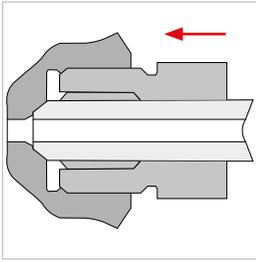

Figure 3
- ▶ Connect the tube with the pressure screw or other component (Figure 3).